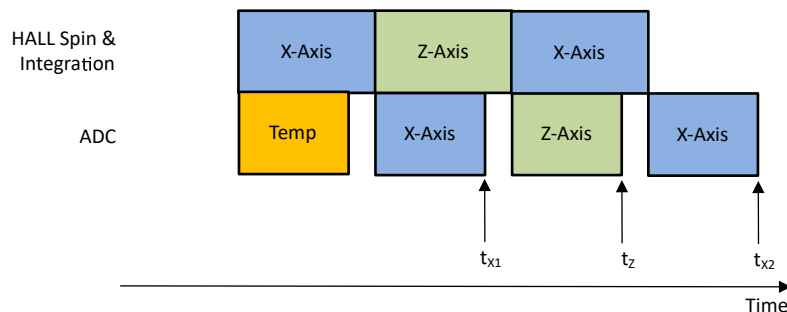

图 8-3. XZX Magnetic Field Conversion
In absolute angle measurement, application sensor data from multiple axes are required to calculate an accurate angle. The magnetic field data collected at different times through the same signal chain introduces error in angle calculation. The TMAG5173-Q1 offers pseudo-simultaneous sampling data collection modes to eliminate this error. 图 8-3 shows an example where MAG\_CH\_EN is set at 1011b to collect XZX data. 方程式 18 shows that the time stamps for the X and Z sensor data are the same.
- $t_{x1}$ ,  $t_z$ ,  $t_{x2}$  are time stamps for X, Z, X sensor data completion as defined in 图 8-3.